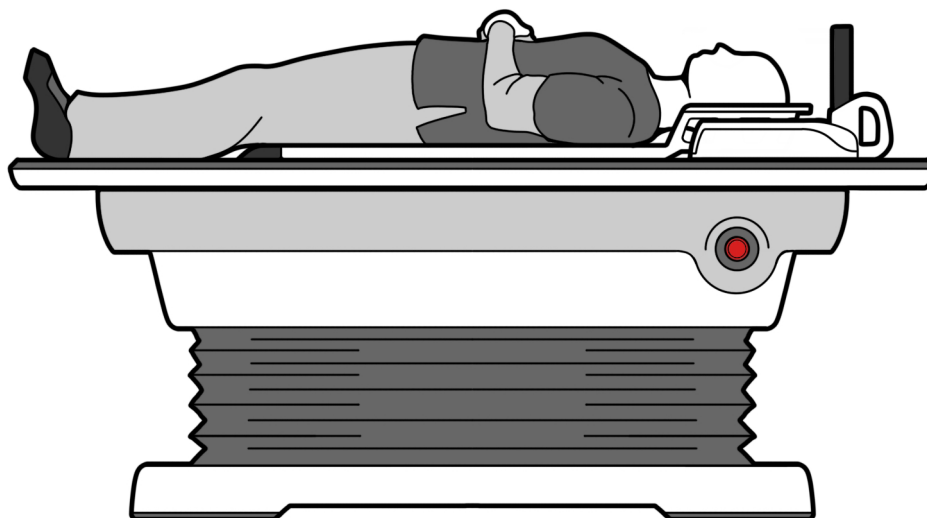

Figure 3
5. Set up patient on the Encompass™ MRI SRS Immobilization Device and Bottom Coil on the MR Table (Fig. 3). Position mask over the patient and attach to the Encompass™ MRI SRS Immobilization Device (if applicable).